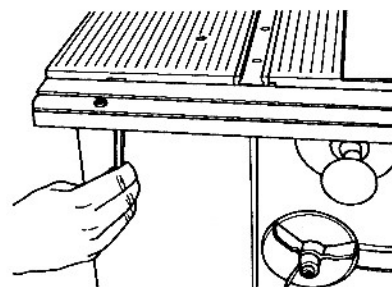

Fig. A-38
45. Double check that both rails are flush with the left edge of the table. Adjust the rail so that it is $1/32$ " below the bottom of the miter slot. Use a $7/16$ " wrench to tighten the nut attaching the first locking plate, as shown in Fig. A-38.